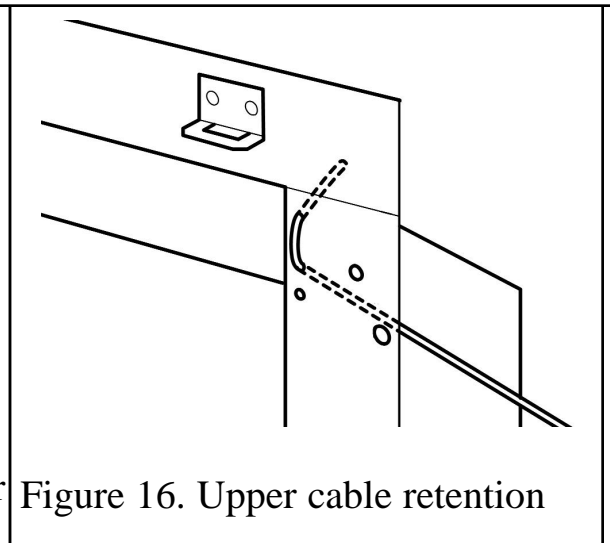

Figure 16. Upper cable retention
5. The hotbox has two holes at each side of the spillage plate. Insert one end of each cable (one cable each side) from the back through the lower of the two holes and return the end through the upper of the holes (See figure 16). Give the cables a pull so that they grip against the hotbox flanges.